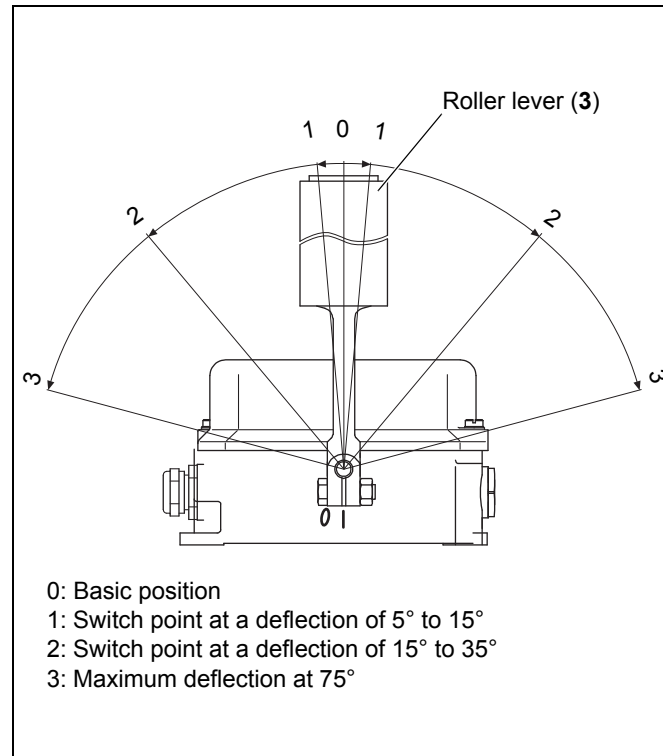
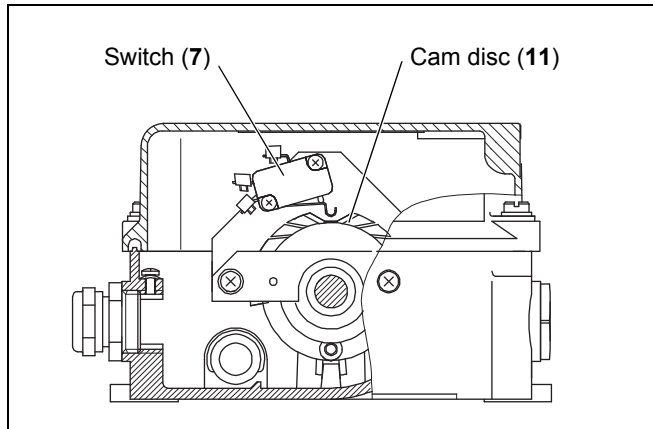

Fig. 3-1: Belt misalignment switch - switch points (adjustable)
Fig. 3-2: Belt misalignment switch – view with roller lever removed
The roller lever (3) of the belt misalignment switches can be moved in both directions (see fig. 3-1). By moving the roller lever (3) the cam discs (11) are turned (see fig. 3-2). The cam discs (11) operate the switches (7). The cam discs (11) are adjustable and make it possible to adapt the switch points to local conditions.